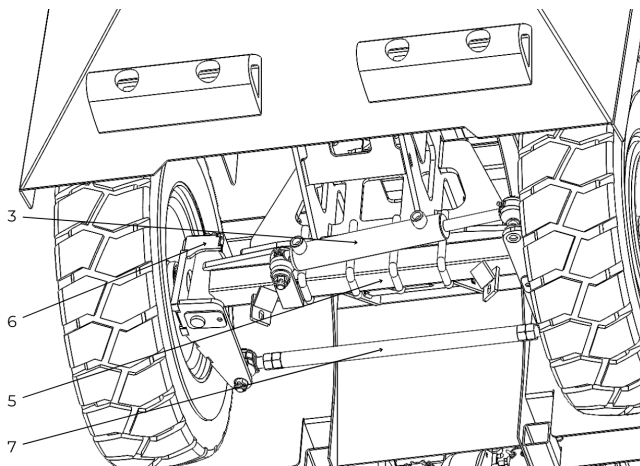

Figure 27. General Steering Inspection.
- Steering cylinder (3). (See Figure 27)
- Axle beam (5). (See Figure 27)
- Right and left knuckles (6). (See Figure 27)
- Tie rod (7). (See Figure 27)